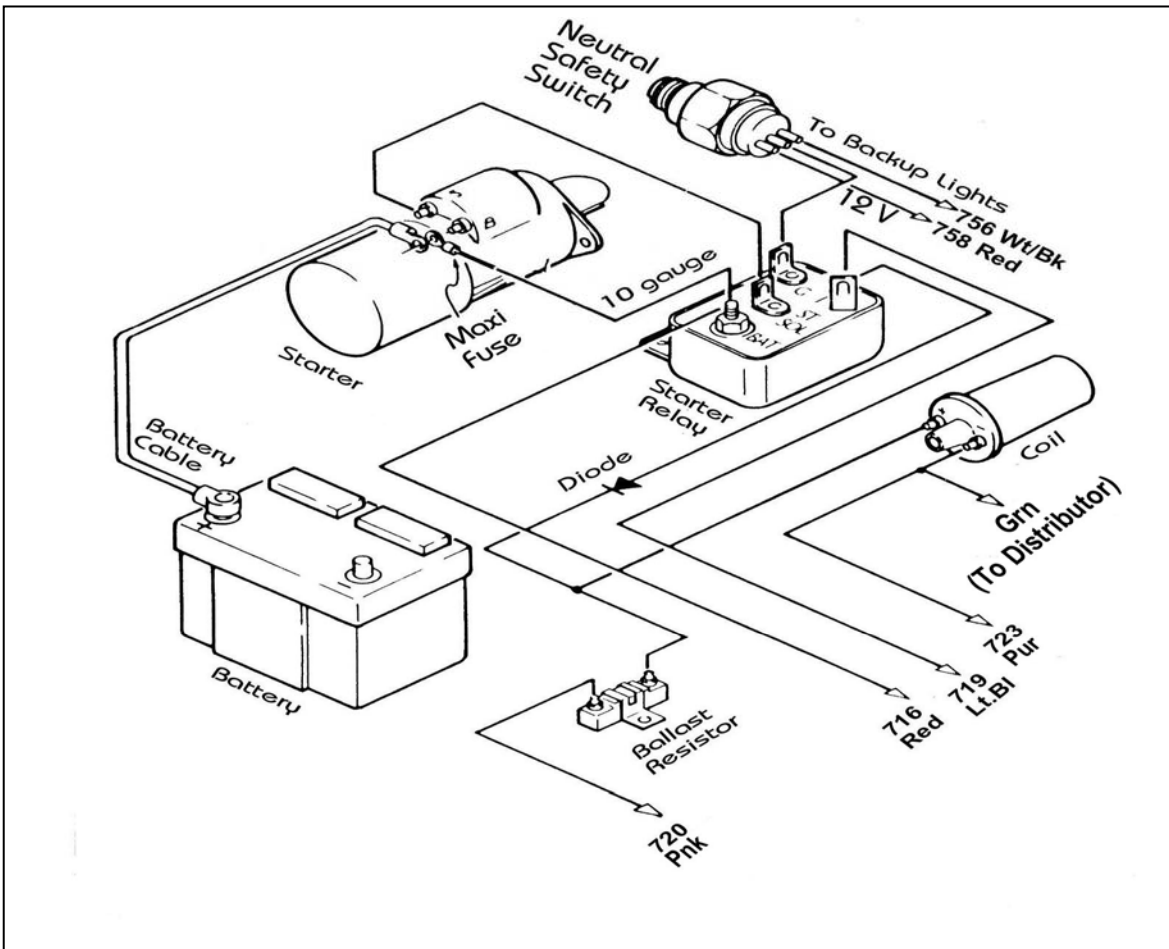

Figure 11.2 Mopar Ignition (Start/Run) System
**11.2 Mopar Ignition (Start/Run) System. See Figure 11.2.**
- 11.2.2 With crimping tool, attach the Maxi-Fuse (Figure 8.3) onto remaining length of red 10-gauge wire. **DO NOT OMIT IT!** Connect this wire from the Starter Relay Battery terminal to the Starter Motor Battery terminal, as shown in Figure 11.2. **USE ONLY 10-GAUGE WIRE.**
- 11.2.4 Connect a 14-gauge wire from the Starter Relay Ground (G) terminal to the center terminal of the transmission mounted Neutral Safety Switch. Older Mopar neutral safety switches have only one terminal. On newer switches, the two outside terminals are for backup lights. Use existing wiring to connect these two terminals as shown in Figure 11.2.
- 11.2.7 Connect a 14-gauge wire from the Starter Relay Ignition (I) terminal to the ignition coil side of the Ballast Resistor. This wire serves as a Ballast Resistor BYPASS during engine starting. You must add a diode (8-amp min., 100 PIV) to this wire as shown in **Figure 11.2**. If you are not using a Ballast Resistor, do not connect this wire.